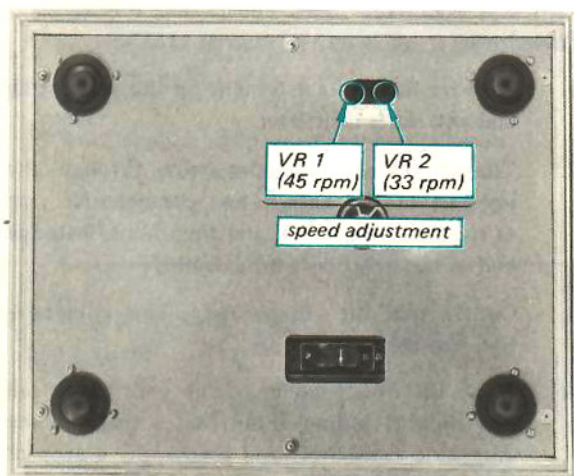

Fig. 3-1. Speed adjustment
3. Set the 33/45 control to the 45 position, and then turn adjustable resistor VR1 (See Fig. 3-1) to obtain the correct strobe indication.
4. After completing the 45 rpm adjustment, proceed to the 33 rpm adjustment as previously described, except turning adjustable resistor VR2 (See Fig. 3-1).